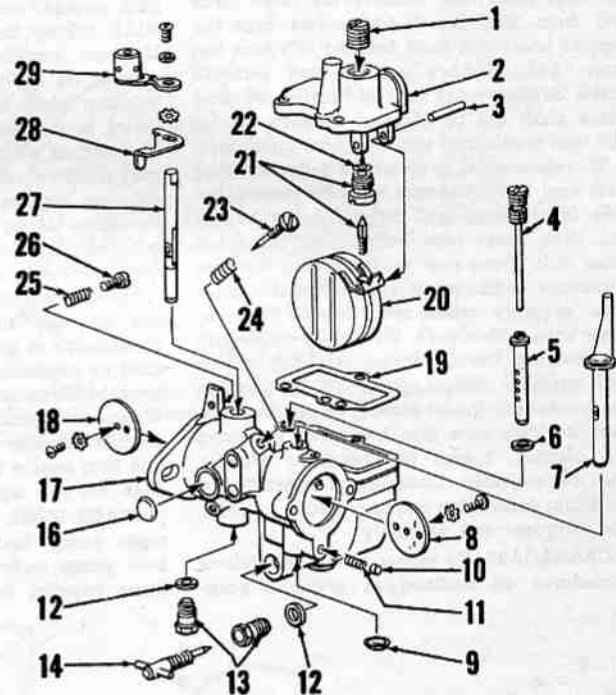
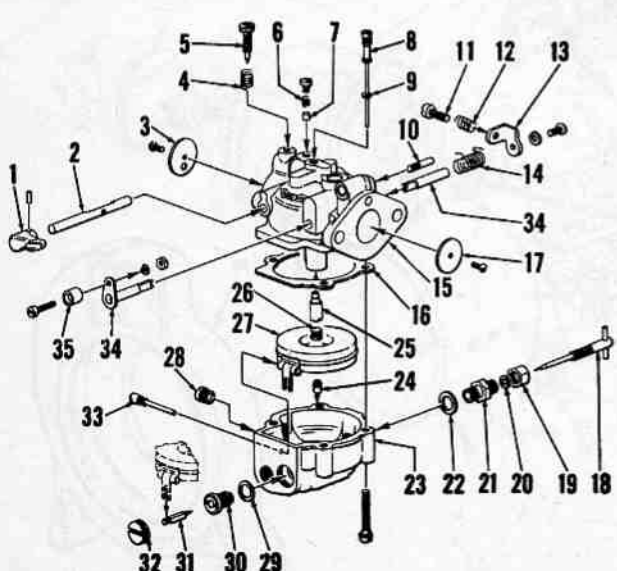

Fig. HL41—Exploded view of typical Series MT Tillotson float type carburetor as used on some Homelite pump and generator models.
Fig. HL40—Exploded view of typical Tillotson Series MD carburetor as used on some Homelite pump models.
**CARBURETORS.** Tillotson Series MD and MT float type carburetors and Homelite carburetors have been used; refer to appropriate exploded view in Fig. HL40 or Fig. HL41, or to the cross-sectional view in Fig. HL43.
Normal idle needle (5—Fig. HL40) setting for Tillotson MD carburetors is 1/4 turn open; main (high speed) needle (18) setting is 1 1/4-1 1/2 turns open. Float setting with fuel bowl assembly held in upside down position should be 3/8-inch from the lowest point of float at free end, to rim of fuel bowl.
Normal idle needle (23—Fig. HL41) setting for Tillotson MT carburetors is 3/4-turn open; main (high speed) needle (14) setting is 1-turn open. Float setting, with the float bowl cover assembly inverted, should be 1 1/2-inch as measured from the top of the float to the gasket surface of the float bowl cover.
**Fig. HL42—Exploded view of fuel system on models using Tillotson float type carburetor. Exploded view of carburetor is shown in Fig. HL41. Actuating primer bulb (14) will pump fuel into carburetor float bowl.**